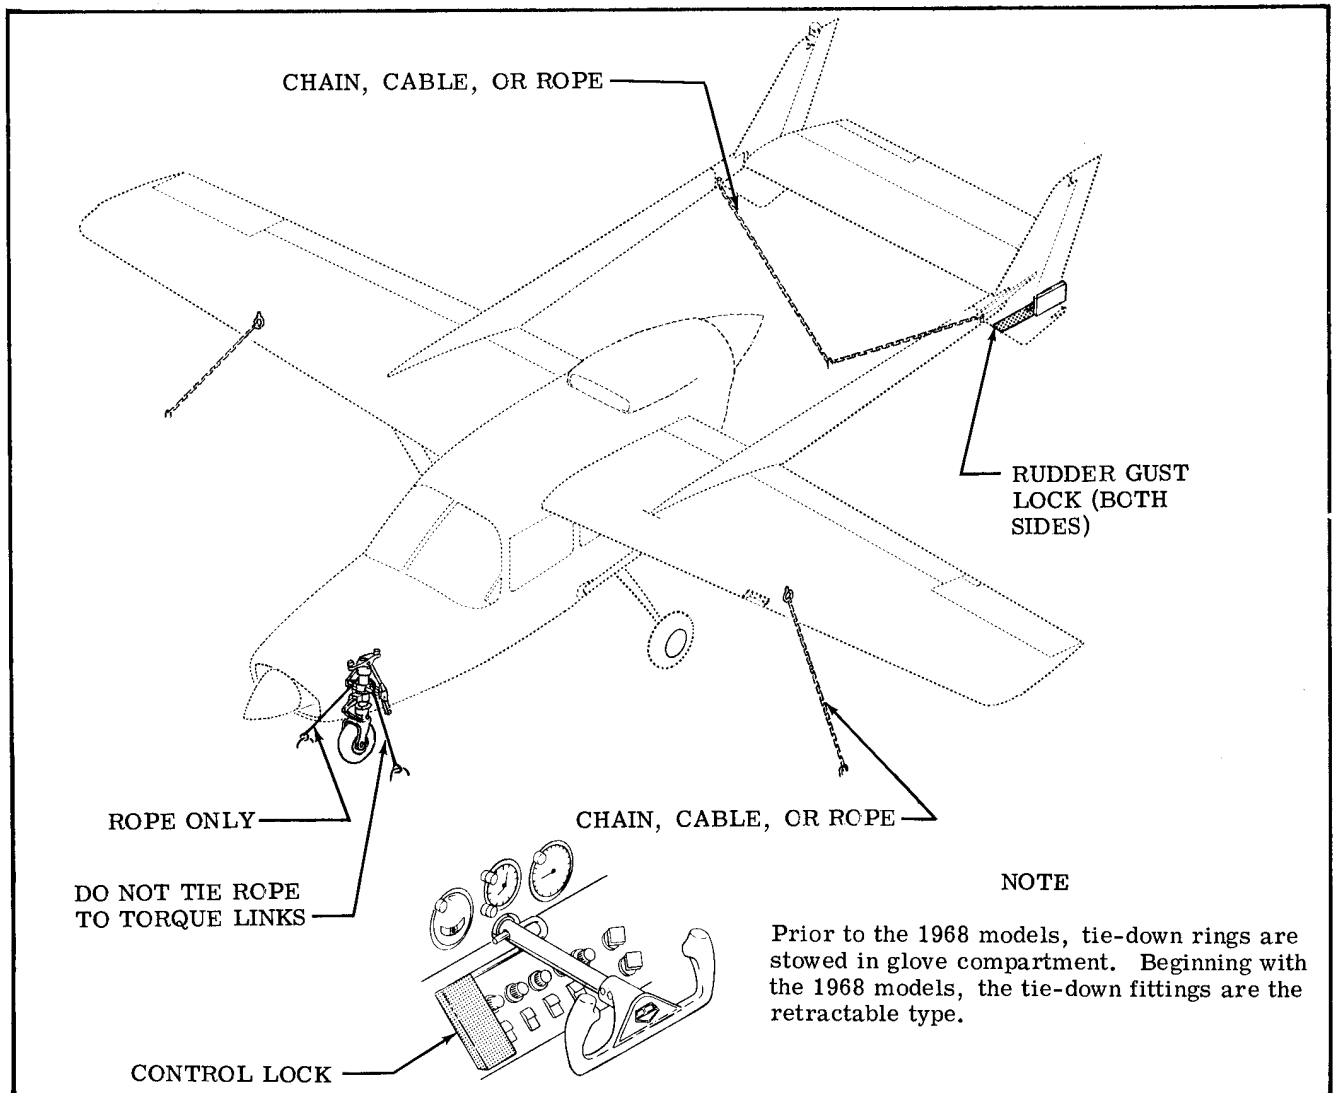

Figure 2-2. Tie-Down Diagram
- c. Secure the middle of a rope (do not use chain or cable) to the nose gear trunnion (see figure 2-2). Pull each end away at a 45 degree angle and secure to the ground anchors.